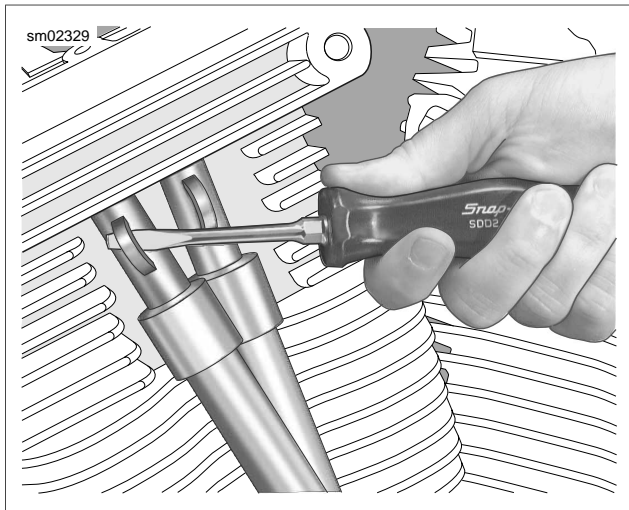

Figure 3-19. Removing Spring Cap Retainer
- See Figure 3-19. Insert the blade of a small screwdriver into cast loop of spring cap retainer (at top of upper push rod cover). While pushing down on spring cap, rotate bottom of screwdriver toward outboard side to remove. Repeat step on second push rod cover.